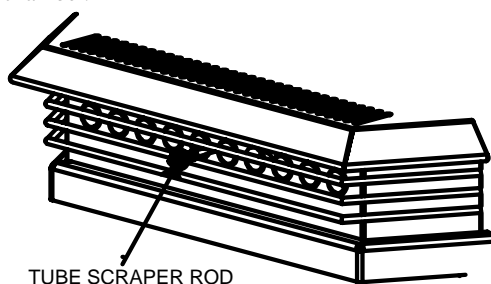

Figure 25. Tube scraper rod to clean the heat exchanger pipes.
1. Pull and push the cleaning rod which is located in the center, above the door (See Figure 25). This will remove the ash deposits on the heat exchanger tubes. The removed ash will fall on the top heat shield, located in the burn chamber.